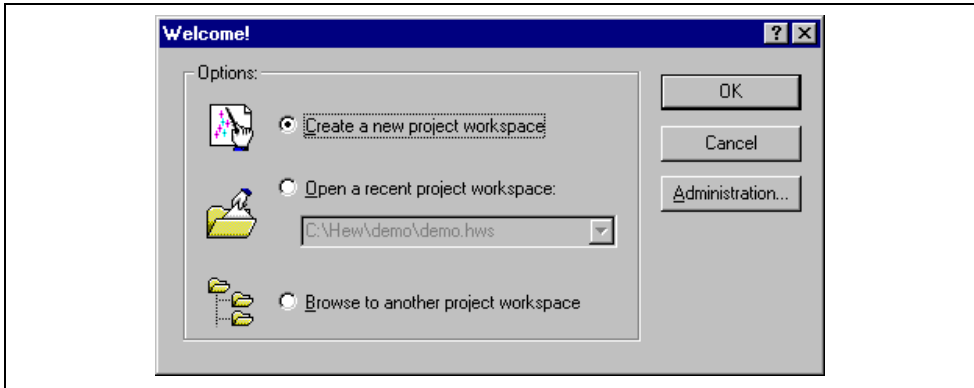
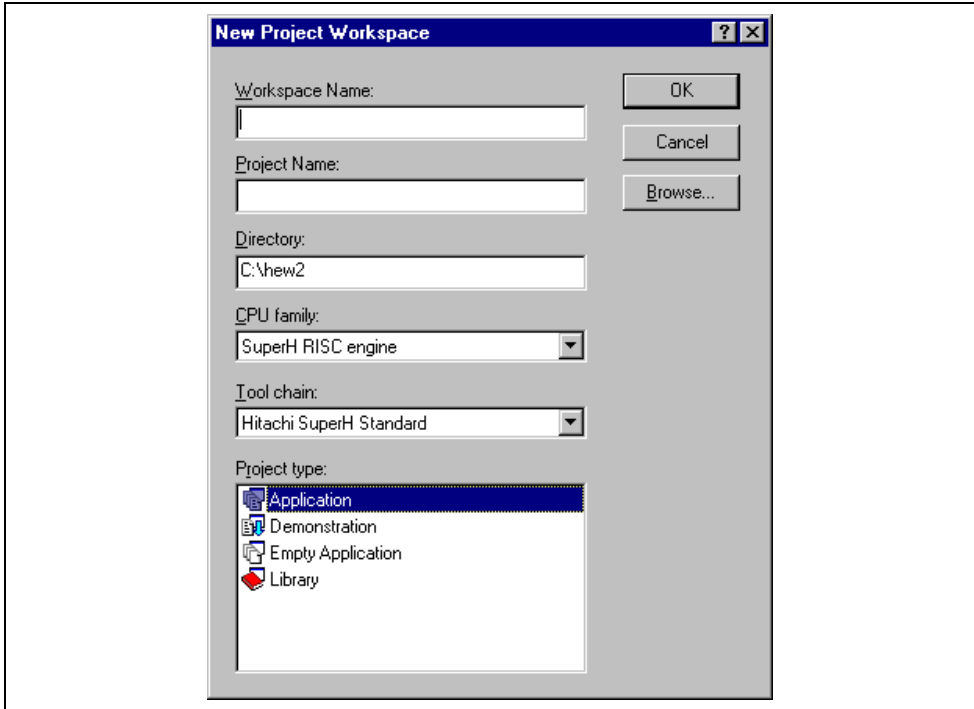

Figure 1.6: Welcome! Dialog
Figure 1.7: New Project Workspace Dialog
To run the HEW, open the “Start” menu of Windows®, select “Programs”, select “Hitachi Embedded Workshop 2” and then select the shortcut of the Hitachi Embedded Workshop. By default, the “Welcome!” dialog shown in figure 1.6 will be displayed.
1. Select the “Create a new project workspace” option from the “Welcome!” dialog (figure 1.6) and press “OK” or select [**File->New Workspace...**]. The “New Project Workspace” dialog will be displayed (figure 1.7).
1. Select “Browse to another project workspace” option from the “Welcome!” dialog (figure 1.6) and press “OK” or select [**File->Open Workspace...**]. The “Open Project Workspace” dialog will be invoked.